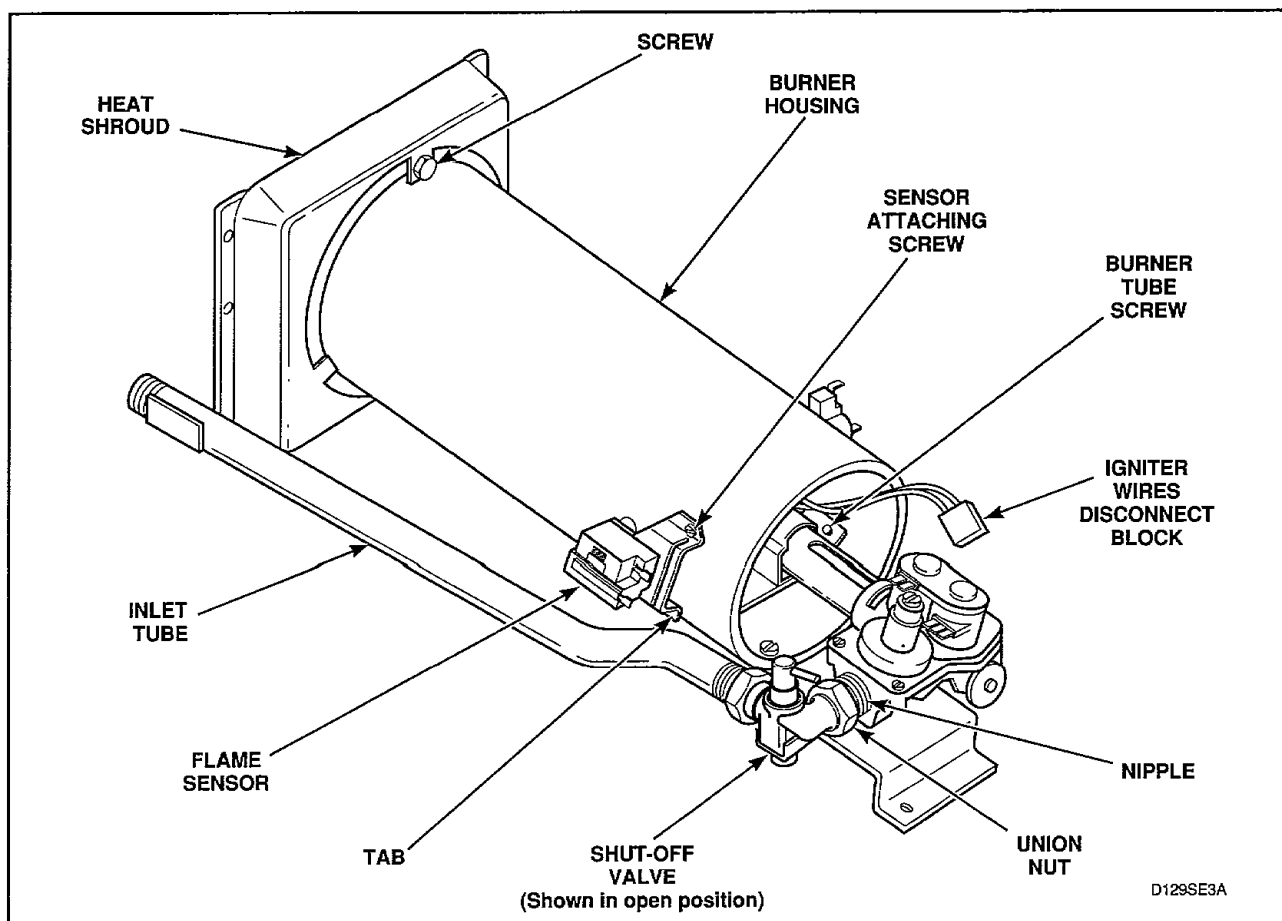
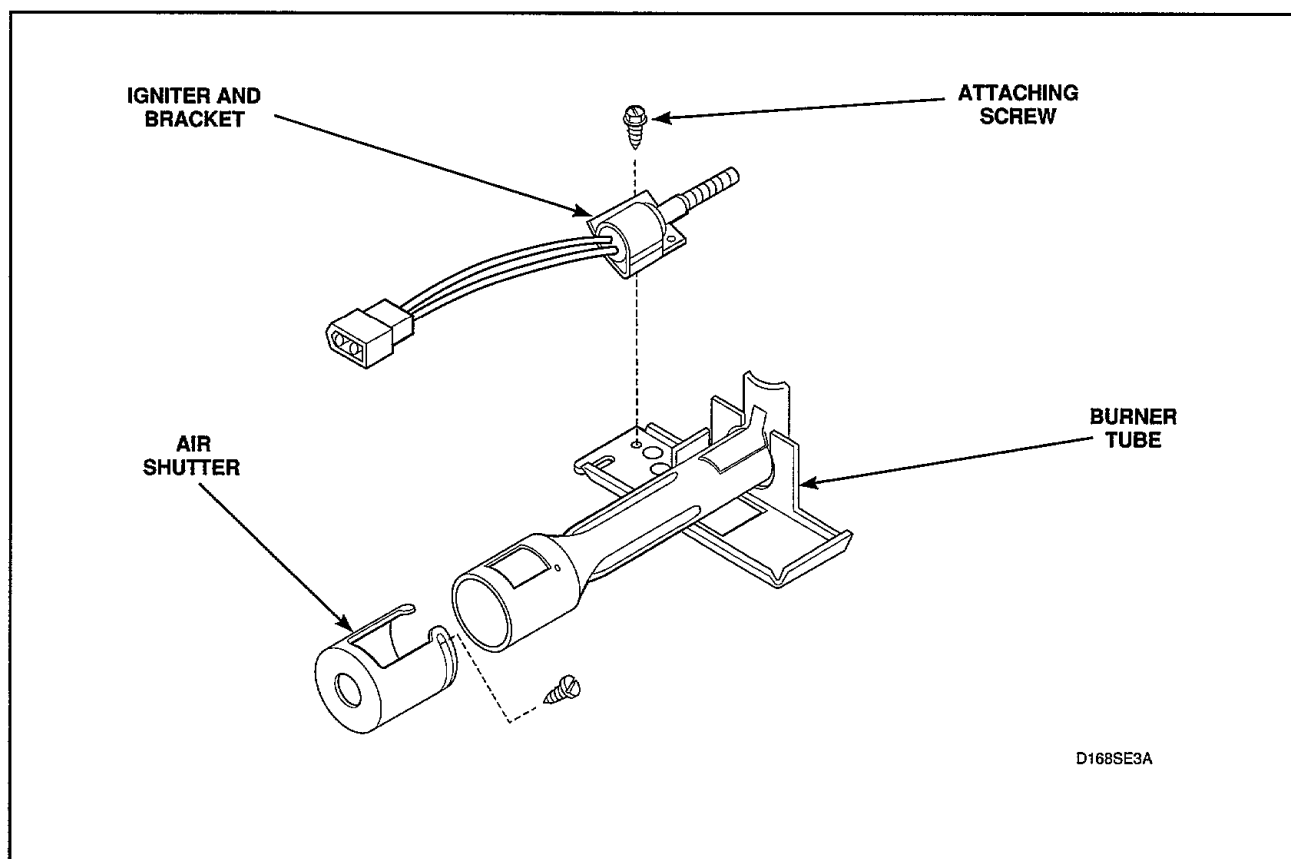

Figure 28
Figure 29
- (4) Disconnect gas shut-off valve from gas valve at the union nut, *Figure 28*.
- (5) Remove two screws holding valve and mounting bracket to base.
- (6) Slide assembly forward, then lift gas valve and mounting bracket from base, *Figure 28*.
- (1) Remove one screw from right side of burner housing holding burner tube in place, *Figure 28*.
- (2) Gently move burner tube toward rear of dryer to disengage tab from slot on left side of burner housing, *Figure 28*.
- (3) Carefully rotate burner tube and igniter counterclockwise so tab is at 8 o'clock position.
- (4) Move air shutter end of burner tube slightly to right and CAREFULLY remove burner tube and igniter assembly out through front of dryer.
- (5) Remove screw holding igniter and bracket to burner tube and remove igniter and bracket, *Figure 29*.
- (2) Gently lower the access panel to disengage guide lugs from bottom edge of front panel.
- (3) Remove wires from sensor terminals, *Figure 28*.
- (4) Remove screw holding sensor to burner housing, *Figure 28*.
- Gently move burner tube toward rear of dryer to disengage tab, *Figure 28*, from slot on left side of burner housing.
- Remove screw holding burner housing to heat shroud, *Figure 28*.